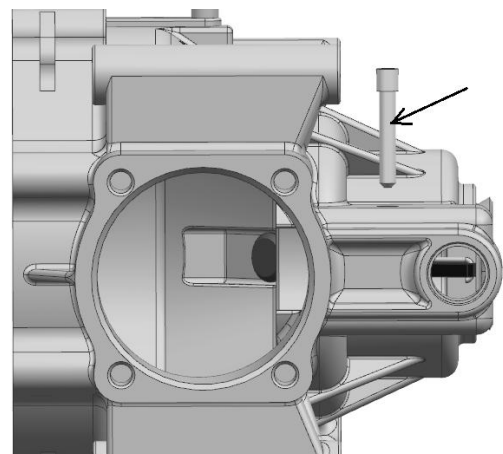

Fig 11
**12. Remove the pin from the gearcase cover. →Fig 11**
6. Install the lock shift (NO.46) pin and tighten. → Fig 11